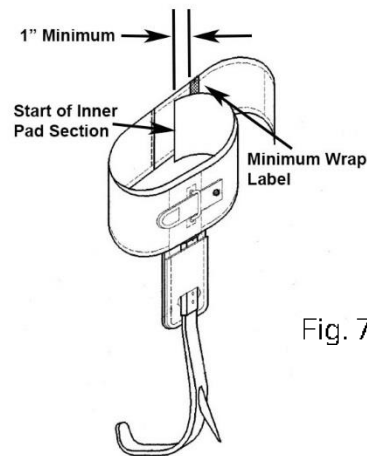

Fig. 7
3. Wrap the pad (hook fastener portion) around the leg ensuring the MINIMUM WRAP LABEL is located at least 1" past the start of the inner pad section or beyond (Fig. 7) and adhere to the loop fastener portion. This ensures a proper wrap. Failure to do so may cause release, resulting in serious injury or death.